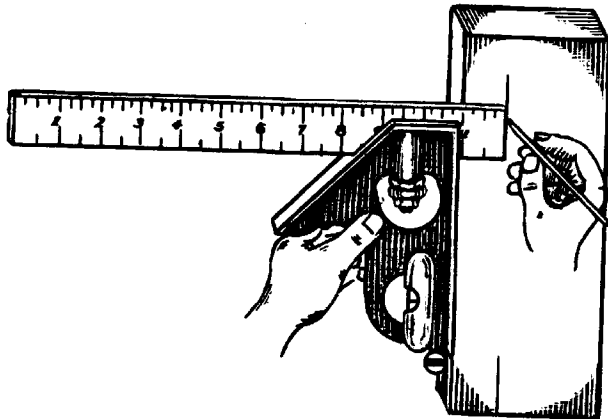

FIG. 9
7. Parallel lines may also be scribed by using the combination square. Set the blade of the square at the desired dimension and scribe lines at each end as shown in Figure 9. Connect these lines with the steel rule or combination square placed on edge.